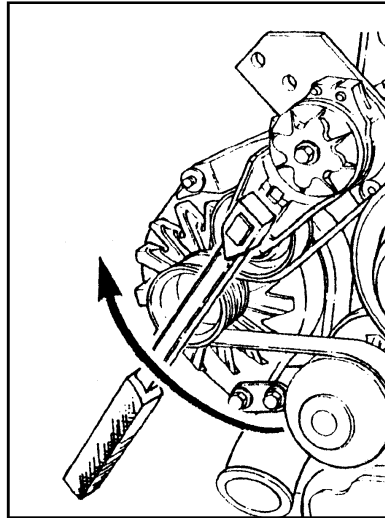
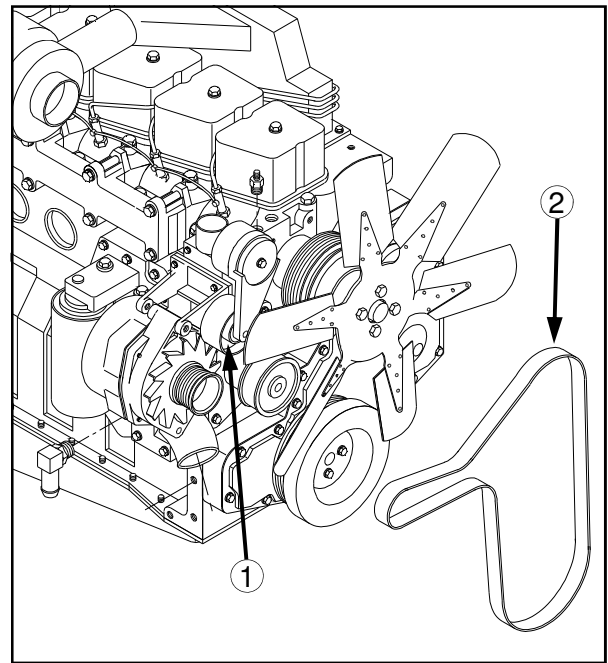

FIG 6.17-1
FIG 6.17-2
**REMOVAL**– Insert a 1/2 inch square ratchet drive (fig. 6.17-1) into the belt tensioner (fig. 6.17-2, item 1) and lift upward to remove the belt (fig. 6.17-2, item 2).